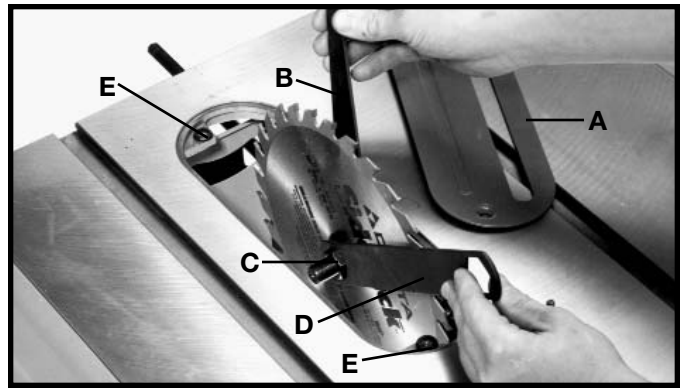

Fig. 47A
1. Raise saw blade to its maximum height and remove the table insert (A) Fig. 47A. **NOTE:** Be careful not to lose two rubber washers (E).
2. Using the open end wrench (B) Fig. 47A, place wrench on flats on saw arbor and remove arbor nut (C) using wrench (D) by turning nut clockwise. Remove blade flange and saw blade.
3. Assemble new blade making certain teeth of blade are pointing down at the front, assemble outside blade flange and nut (C). Tighten nut (C) with wrench (D) by turning nut counterclockwise while holding arbor steady with wrench (B).
4. Replace table insert (A) Fig. 47A.